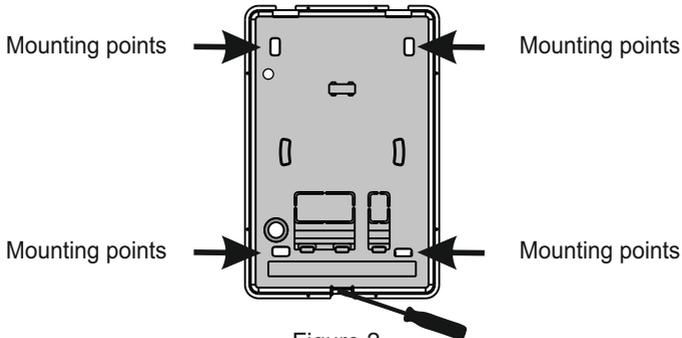

Figure 2.
2. Mount the rear plastic to the wall, with the supplied mounting materials, to the points shown in Figure 2. When an external input connection is required, connect to the terminal block of the base.